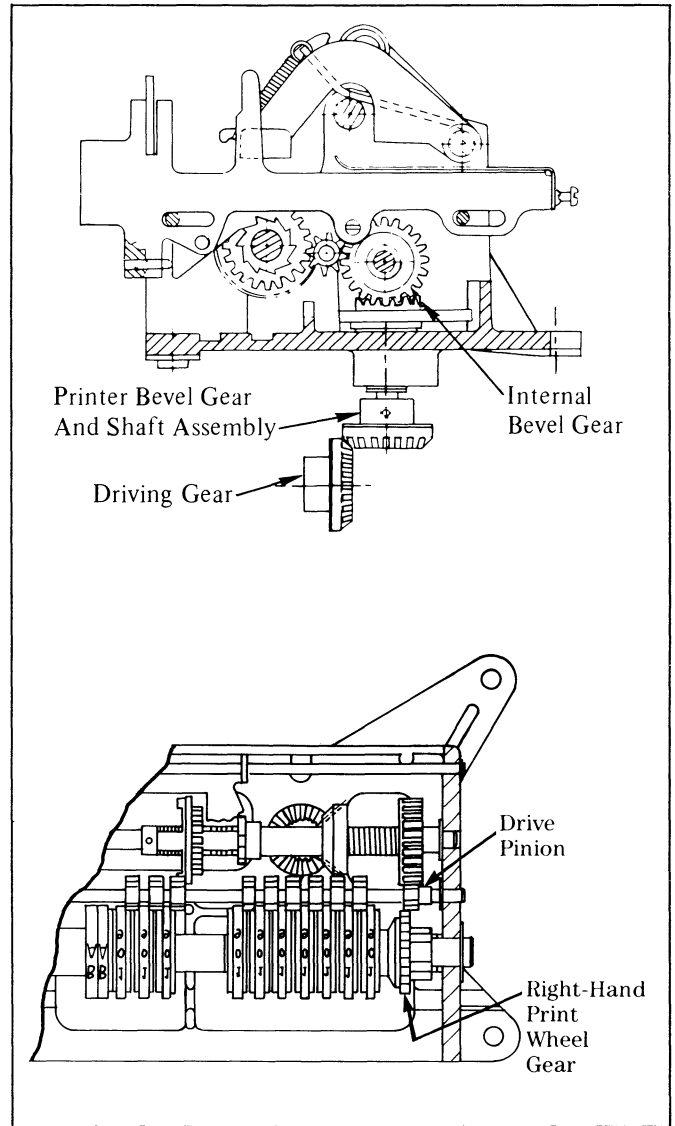

Figure 4. Drive Train (Accumulative)
1. **Drive.** The shaft, Figure 4, on the bottom of the printer is driven by a bevel gear from a meter register or other equipment. The printer's bevel gear and shaft assembly turns in a counterclockwise direction. The internal bevel gear on the shaft drives the clutch assembly, associated pinions and the gear assembly of the right-hand print wheel.